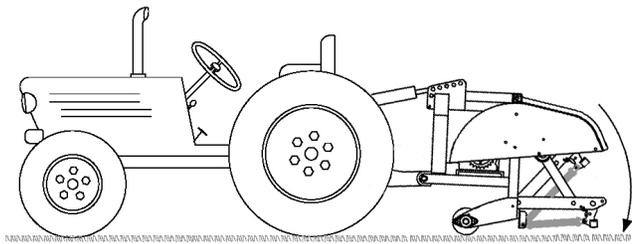

Figure 14
4. Lower the aerator to the ground and fully extend the hydraulic top link cylinder or upper link (Figure 14).